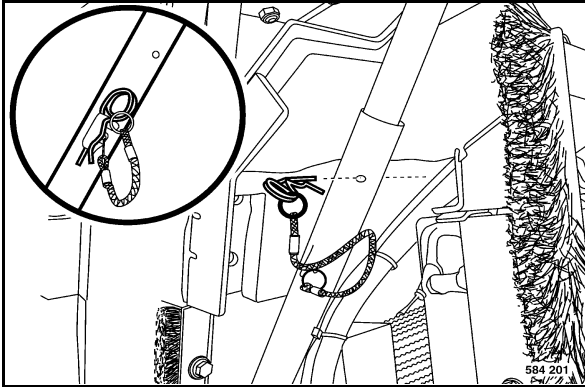

Fig. 76
- Pull the spring pin (Fig. 76) out of the bracket.